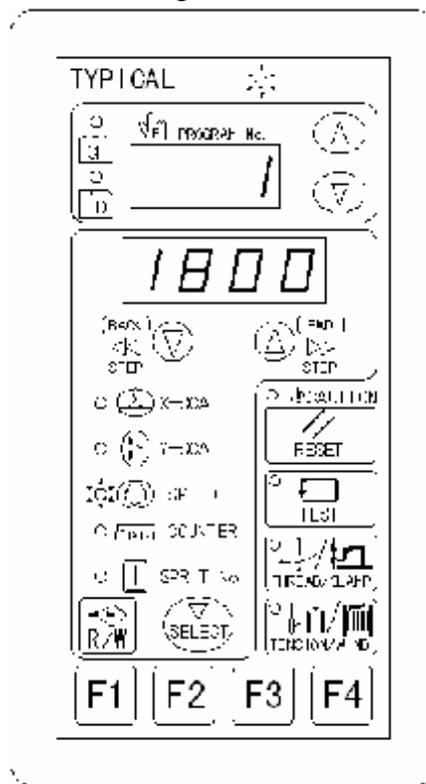

Fig. 4-1
1. Press  key to connect power supply and provide power for machines, until operation panel display and menu display show [1] and [1800] respectively, with [1] under flashing state (as shown in Fig. 4-1)